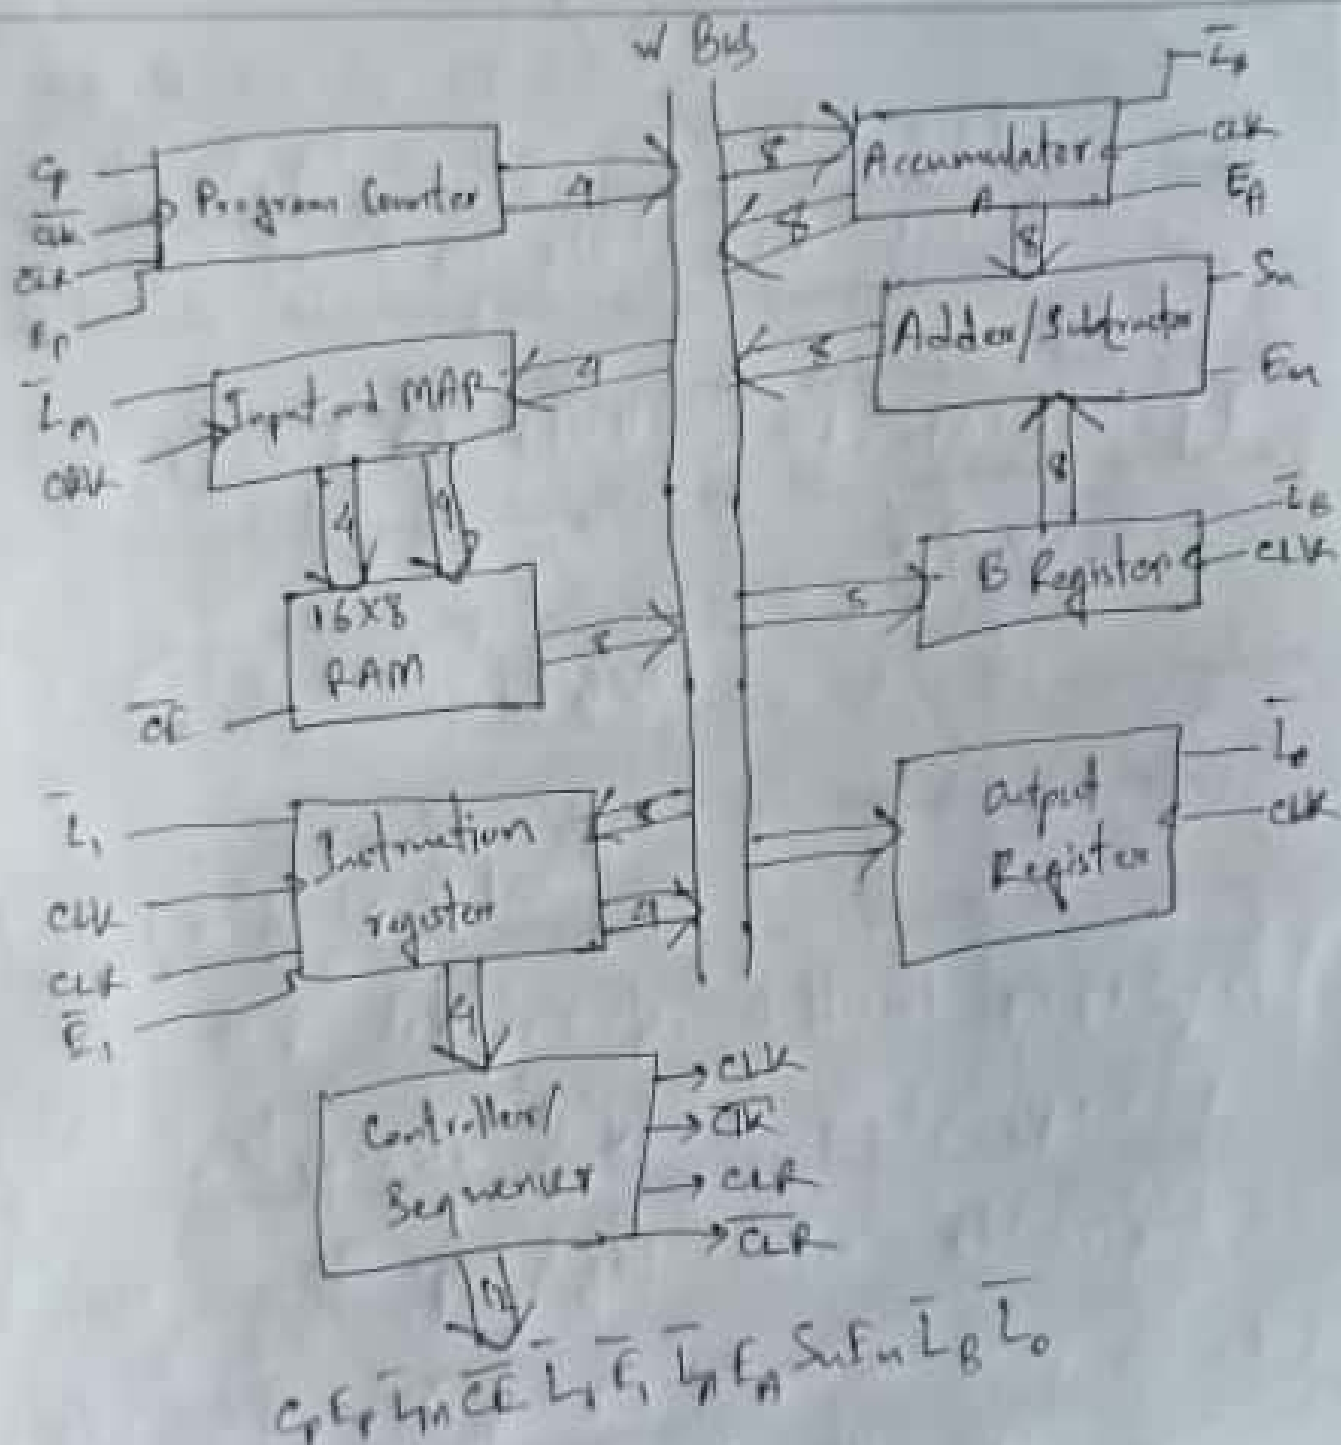

Fig 1.1: SAB-1 Architecture
The accumulator (A) is a buffer register that stores intermediate answers during a computer run. The fig 1.1 accumulator has two outputs. The two state output goes directly to the adder-subtractor. The three state output goes directly to the w bus. Therefore, the 8 bit accumulator word continuously drives the adder-subtractor; the same word appears on the w bus when E_A is high.